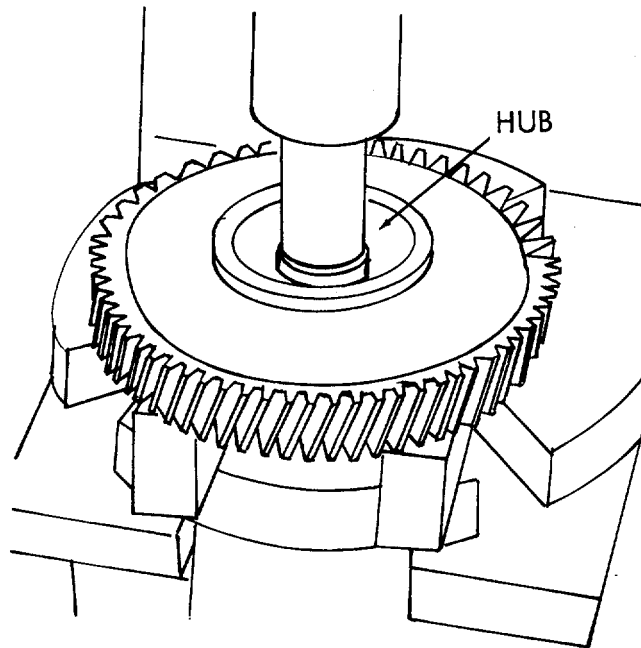
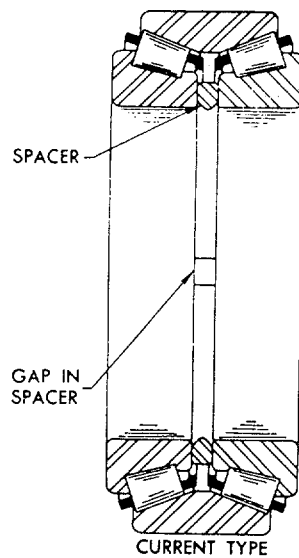

Figure 3-60. Pressing hub out of bearing.
Figure 3-61. Idler gear bearing and spacer, cross-section view.
- (1) Remove the six bolts and three bolt locks which secure the bearing retainer to the idler gear.
- (2) Place the idler gear and bearing assembly in an arbor press with the bearing cone or inner race supported on steel blocks as shown in figure 3-60. While rotating the gear assembly, press the hub out of the bearing. Remove the gear assembly from the arbor press and remove the bearing cones and spacer. (fig. 3-61).